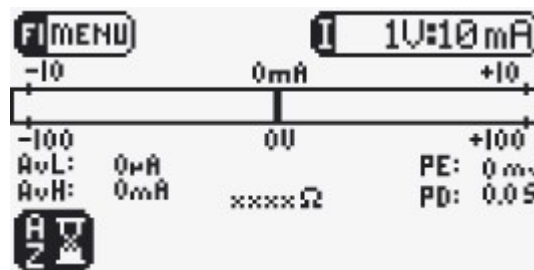

Figure 2.3 Initial Main Operating Screen Display
8. Once all tests have been successfully completed the Main Operating Screen (Fig 2.3) is displayed. In the bottom left corner of the screen a flashing  icon indicates that the DS5 is ready for auto-zeroing using the front panel F2/AZ key.